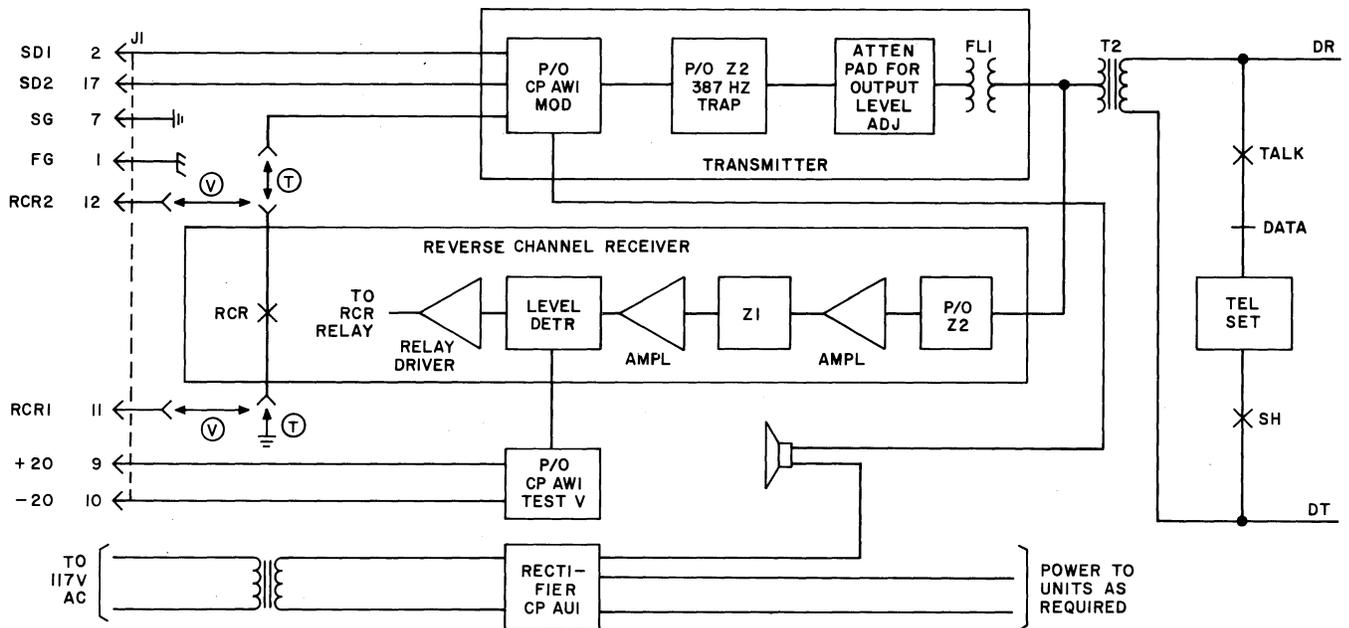
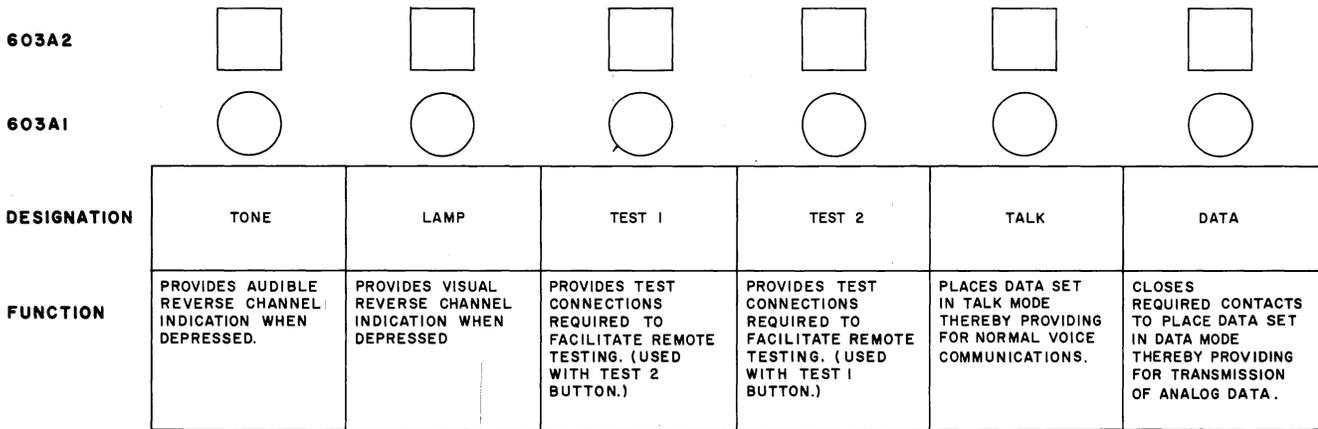

Fig. 4—Data Set 603A-Type—Block Diagram
Fig. 5—Data Set 603A-Type—Control Button Designations and Functions
2.06 A block diagram showing the functional relationship of the major components which make up the data set is shown in Fig. 4. This block diagram shows the data set divided into four basic units—the transmitter, the reverse-channel receiver, the telephone set and control buttons, and the rectifier. The transmitter accepts a 0- to 100-Hz analog signal from the business machine and modulates the 1988-Hz carrier for voiceband transmission. Coordination between transmitting and receiving locations during data transmission is accomplished by the reverse-channel receiver. Power for operation and control of the data set is furnished by the rectifier. Operation of these units is controlled by the 6-button control unit. The designation and function of these control buttons are shown in Fig. 5.